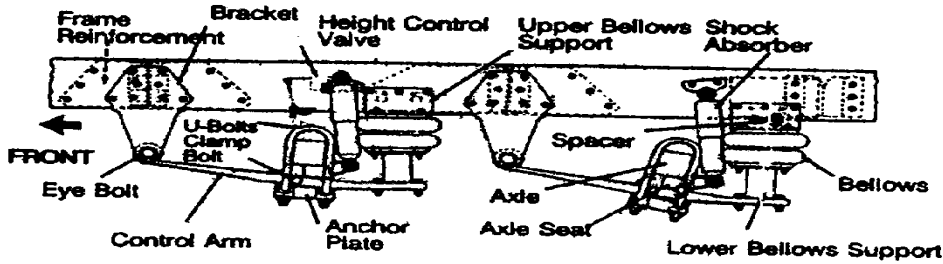

Figure 2-4
- Leaking shock absorbers (Figure 2-4).